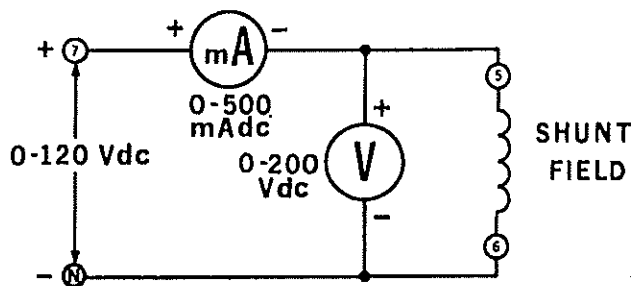

Figure 2-1.
6. You will now measure the resistance of each of the motor windings using the voltmeter-ammeter method. With this information you will calculate the power losses for each of the windings. Using your Power Supply, DC Voltmeter/Ammeter and DC Motor/Generator, connect the circuit shown in Figure 2-1.
- This is the same circuit as shown in Figure 2-1 except that the series field winding has replaced the shunt field winding and that the 5 A dc meter has replaced the 500 mA dc meter.